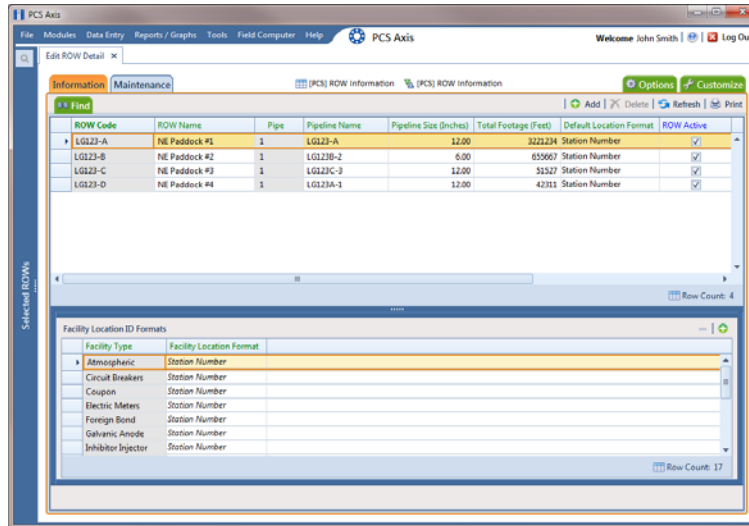

Figure 4-32. Edit ROW Detail
- 2 Click **Data Entry > Edit ROW Detail** to open the *Edit ROW Detail* window. If you want to collapse the *Selected ROWs* panel to view more of the *Edit ROW Detail* grid, click **Selected ROWs**. To expand the panel, click **Selected ROWs** again (Figure 4-32, page 159).
- 2 Click **Data Entry** > **Edit ROW Detail** to open the *Edit ROW Detail* window (Figure 4-32, page 159).
- 2 Click **Data Entry > Edit ROW Detail** to open the *Edit ROW Detail* window (Figure 4-32, page 159).